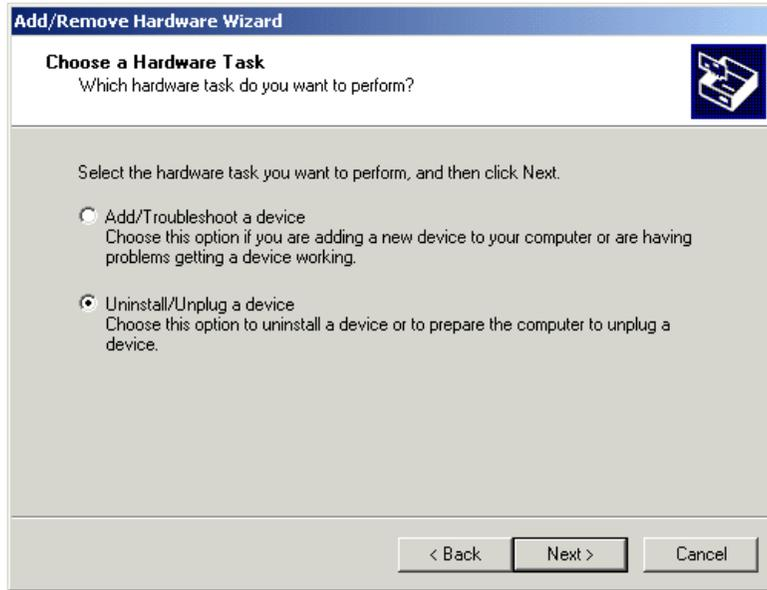

Figure 92. The Add/Remove Hardware Wizard
3. Click **Next** at the welcome window. You will see a window similar to Figure 92: